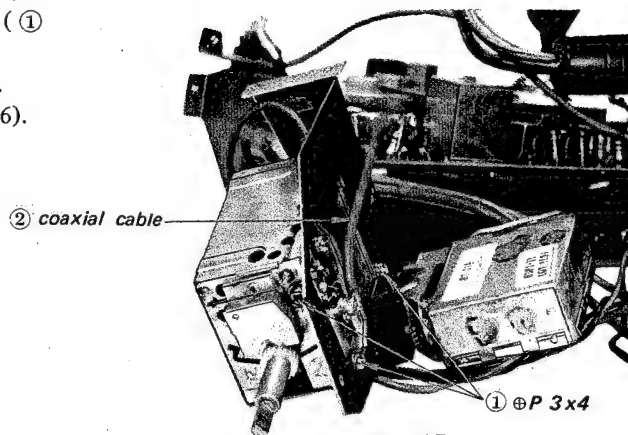

Fig. 15
3. Unsolder a coaxial cable (② in Fig. 15).
4. Remove the three screws (① in Fig. 15).